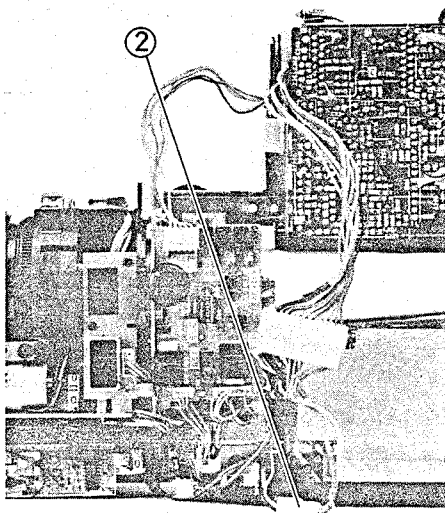

Fig. 2-40 EVF Connector Removal
2. Disconnect connector CN404. (See Fig. 2-40)